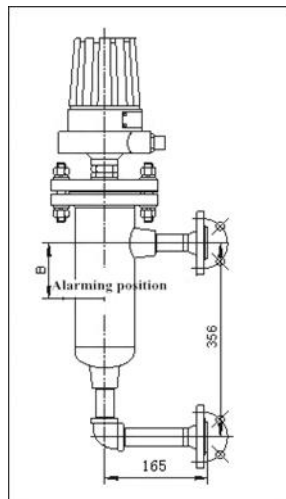
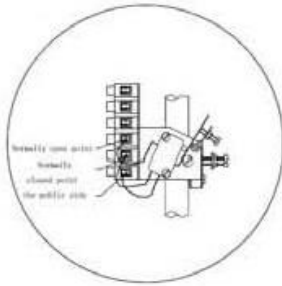

Figure 5 UTK-100B
Figure5-1
2. Wiring according to the wiring diagram, please note that the high-alarm and low-alarm switch action is reversed, be sure to follow the wiring diagram (see Figure 5) to connect to the correct terminal. For SPDT form, high report connect a pair of normally open point - common terminal (see Figure 5-1), low report connect a pair of normally closed point - common terminal.